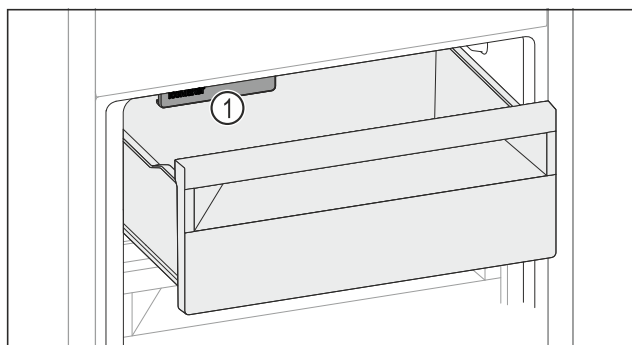

Fig. 130
- Watch out for the IceMaker Fig. 130 (1).